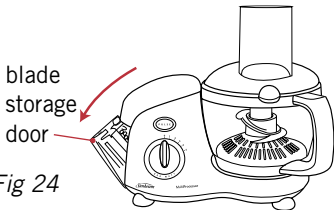

Fig 24
2. Pull down the blade storage door, see Figure 24.